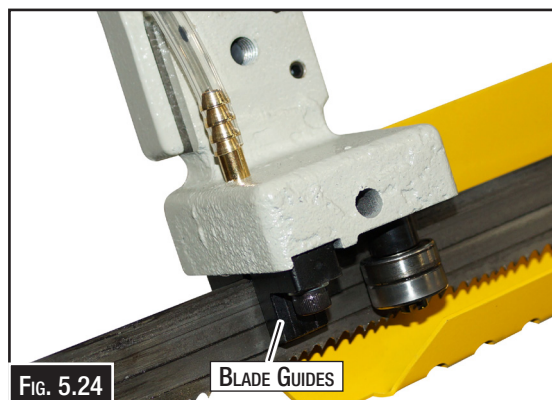

FIG. 5.24
6. Use leather gloves to prevent cuts or scratches. Pull the blade off the drive wheels and out of the blade guides. Store the removed blade carefully before proceeding. (Fig. 5.24)